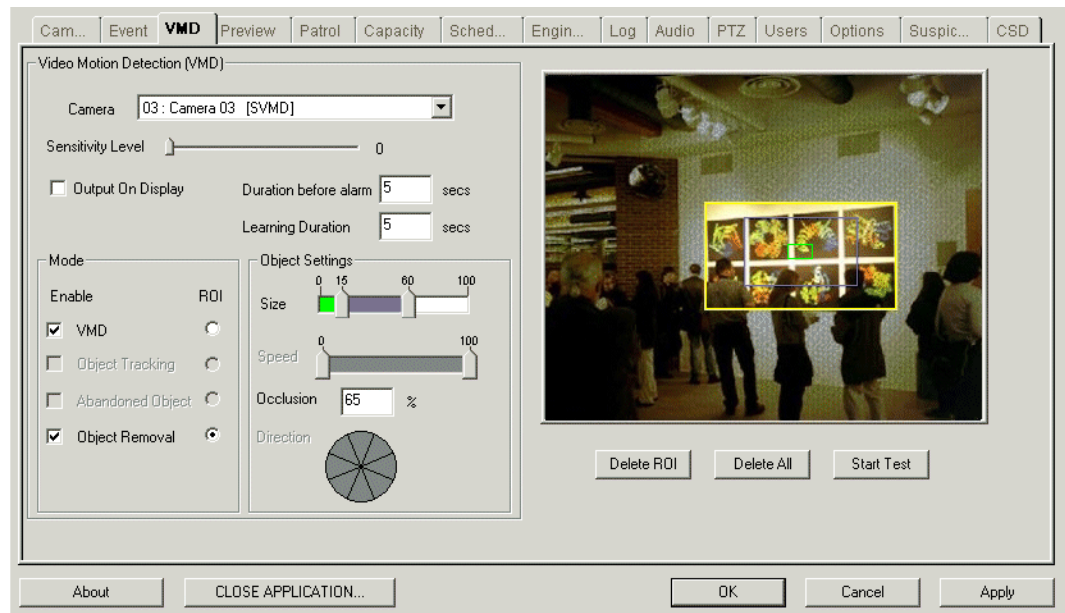

Figure 12-5: Drawing an Object Removal ROI for a camera
1. Open the VMD menu of the Configuration Console as shown in Figure 12-5.
- 0b. If you want the VMD to apply to just a part of the camera view, select the **ROI** radio button, position your mouse cursor in one corner of the area where you want an ROI and drag out the border to draw the box. This enables you to focus the server's attention on one or more specific objects in the picture. Figure 12-5 above shows an ROI drawn to guard against the removal of a painting in an art gallery.